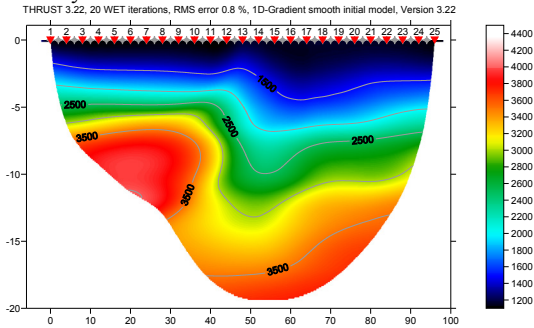
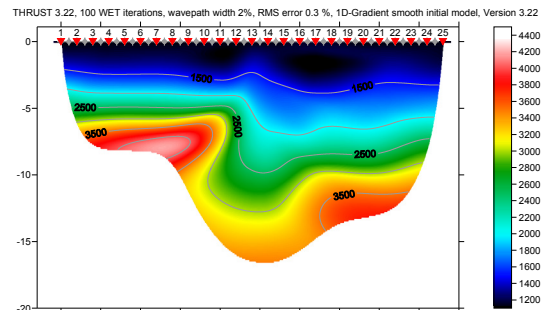
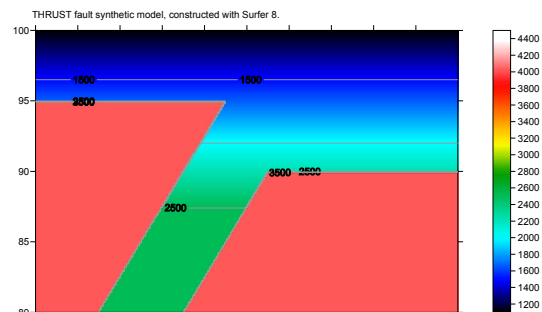

Fig. 6 : Velocity tomogram with Smooth inversion, 20 WET iterations, default settings, wavepath width 3%. RMS error is 0.8%. Initial model is Fig. 5.
Fig. 10 : 100 WET iterations, wavepath width 2%. RMS error is 0.3%, initial model Fig. 5.
Fig. 11 : synthetic model, built in Thrust tutorial.
- click buttons *Accept parameters* and *Start tomography processing*. Obtain Fig. 10.
Compare agreement between WET inversion output and original model (Fig. 11), for Fig. 6 and Fig. 10. WET after 100 iterations (Fig. 10) more closely images the original model (Fig. 11) than after 20 iterations (Fig. 6). The traveltimes misfit decreased continuously; otherwise the WET inversion would have stopped after fewer than 100 iterations. See (Fig. 9) for WET stop criteria.
Decreasing the WET wavepath width from 3% (Fig. 6) to 2% (Fig. 9 and 10) helps to more clearly image the fault zone. Decreasing the wavepath width sometimes can improve the resolution, but only if shots are spaced closely enough (at every 3rd receiver) and if first break picks are picked accurately. Otherwise decreasing the wavepath width can instead increase the amount of artefacts, and render WET inversion less stable, see bulgatri. **Increasing the WET wavepath width is a physically meaningful way to control the non-uniqueness of the solution space.** Increasing the wavepath width will render WET output more smoothly, and diminishes the risk of imaging artefacts. Resolution will typically decrease with increased wavepath width, but maximum imaged depth can increase. See tutorial ot0608.pdf.